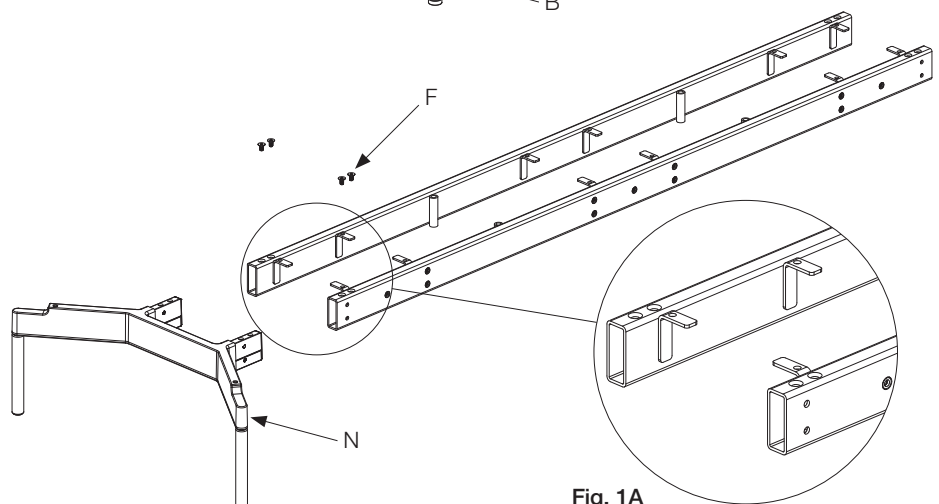

Fig. 1A
- 2.1. Slide both beams on the end leg casting (N). Make sure that all seat tabs, see figure 1A, are oriented up and pointed inward. Use 4 Socket flat head 1/4-20 x 1/2 screws (F) to secure the assembly.